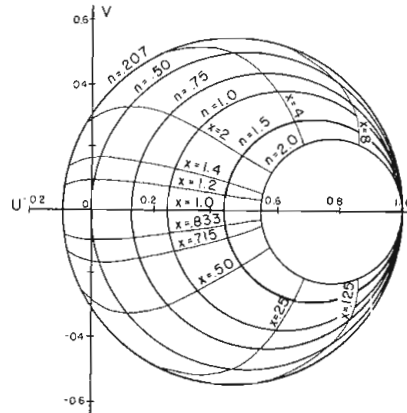

Fig. 3—Polar plot of  $\epsilon_0/\epsilon_1$  for  $m = 1$
The growth, and later the subsidence, of this interference, expressed in millivolts per meter, as sunset approaches and recedes is illustrated in Fig. 3. There is some lee-way between the best and the worst conditions, so assuming we are pessimists we will follow the solid curve (only because it is labeled for us) and find that as early as 2 hours before sunset there is some interference which grows steadily stronger up to about 1 hour after SS at which time WESC and Columbus go off the air because they operate in daytime only. But the interference from KSKY follows the curve upward until this more westerly daytime station also closes at almost 2 hours after SS (plus 22 minutes) in New York. The time separation between New York city and Dallas is 1 hour, 32 minutes, West.
Fig. 3—Curves showing the rise and recession of interference to WNBC as sunset at New York approaches and recedes. Interference from the three indicated daytime stations stops when the most Westerly transmitter goes off the air
In (6) the frequency variable  $g$  has been eliminated from the expressions  $U$  and  $V$ , as defined in (5). Equation (6) represents a family of circles with centers located on the  $U$  axis with the right hand crossing of each circle with the  $U$  axis passing through the point  $U = 1$ . Location of the circle centers depends upon  $a$  and  $b$  which are functions of  $m$  and  $n$ . As an example, let  $m = 1$  with  $n$  variable to obtain the family of circles shown in Fig. 3. In this illustration, lines of constant  $x$ , obtained from equation (5), are superimposed to show the dependence of  $\epsilon_0/\epsilon_1$  upon frequency. In the interpretation of these curves the input voltage,  $\epsilon_1$ , is represented as the unit vector laid off on the  $U$  axis from the origin to the point (1,0), while the output voltage,  $\epsilon_0$ , is given in relative magnitude and phase by the vector from the origin to a point on one of the circles determined by the frequency  $x$  and the value of parameter  $n$ .
tio at the required frequency. This range of  $n$  can be shown to be less useful by a further study of the transmission ratio curves of Fig. 3. As  $n$  decreases below the lower limit of (21), the circles for constant  $n$  decrease in size, and the left hand crossing with the negative real axis is displaced toward the origin. The curves of constant frequency are tangent to the circle giving maximum negative response and thence turn inward, terminating at the origin as  $n$  approaches zero. It is thus obvious that operation in this range produces less frequency selectivity, since a given change in frequency will produce a smaller change in the phase-angle. This section of Fig. 3 has not been reproduced since a three-dimensional plot would be required.